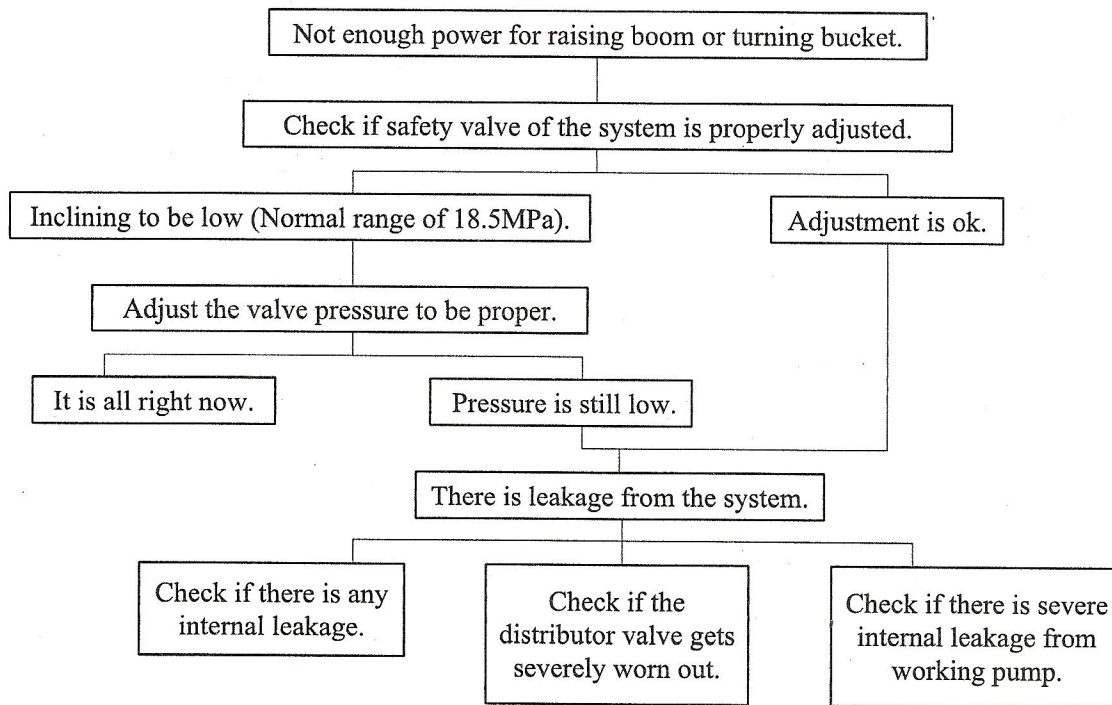

Fig. 06-09 Diagnosis process chart for the problem that there is not enough power to raise the main boom or to turn the bucket
- There is not enough force (pressure) to raise boom or bucket (See Fig. 06-09).